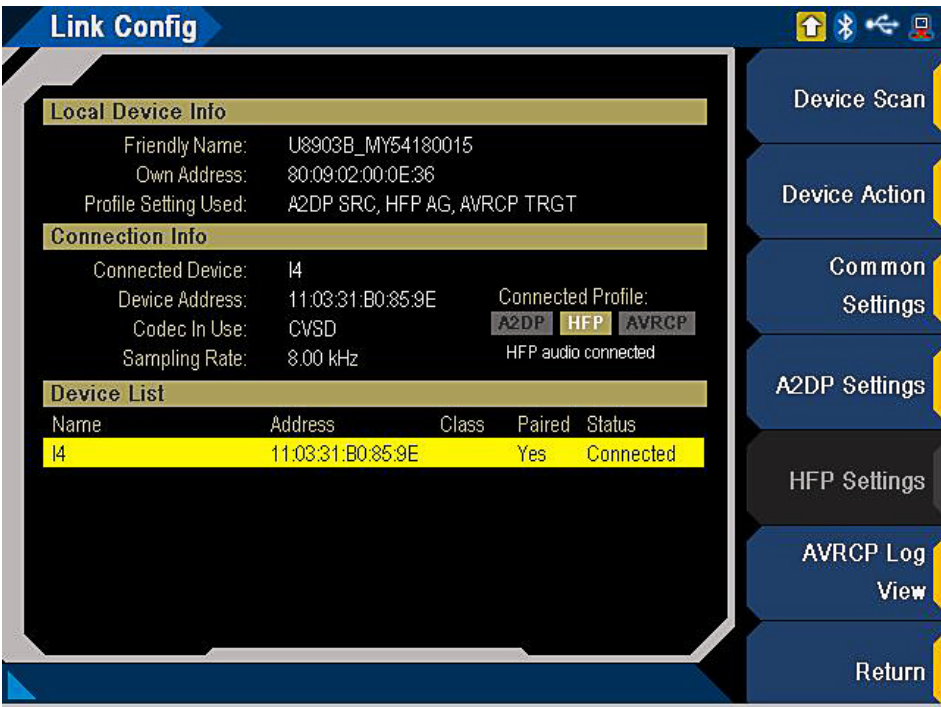

Figure 5. Link configuration
(1) Set the U8903B lower display to AA1 (Analog Analyzer channel 1) by pressing **[Interface]** and **[Generator/Analyzer]** on the front panel.
(2) Set the measurement functions by pressing **{Function}**, followed by **{Function No.}** and **{Meas Func}**. The U8903B can implement up to 4 measurements simultaneously on each display. Measurement functions will be discussed in the following measurement sections.
G. The link configuration for both downlink and uplink is shown in Figure 5.